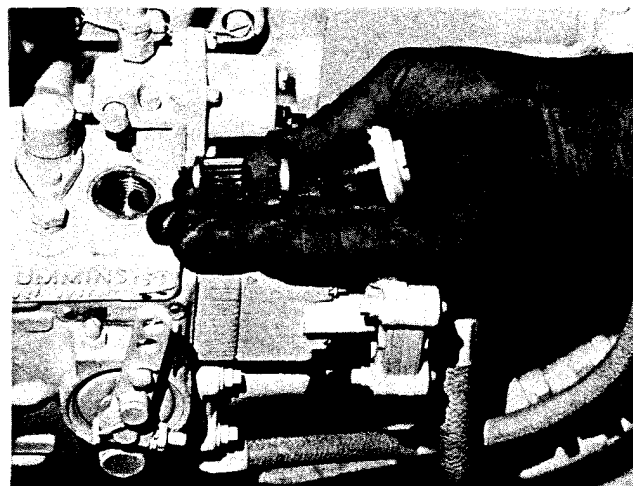

Fig. 2-25, (V41911). Fuel screen in fuel pump
1. Loosen and remove cap, "O" ring and spring. Lift out filter screen assembly. Fig. 2-25.